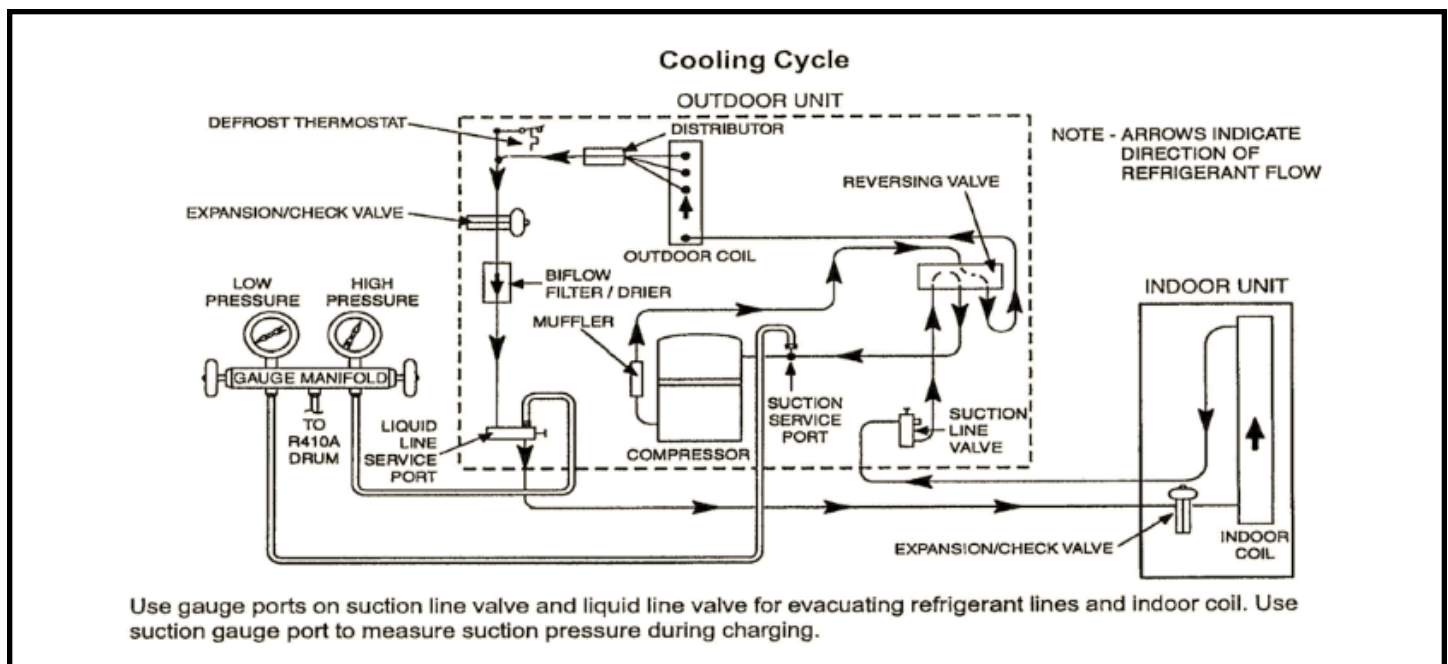

Figure 15
1. Connect the manifold gauge set to the service valve ports as follows (See Figure 15 above):